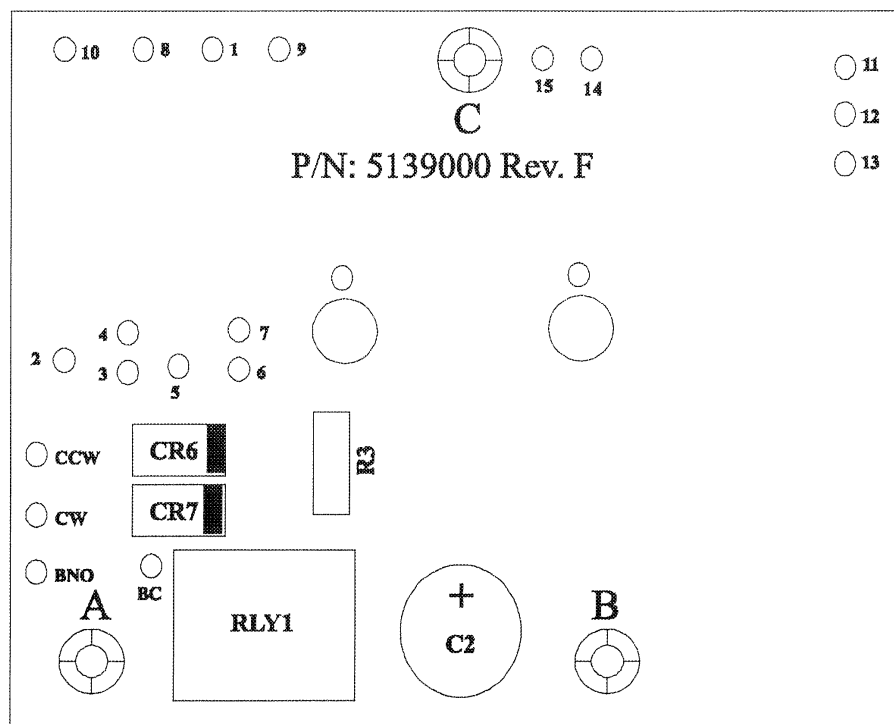

Figure 1
4. Insert one (1) of the 6-32 x 1/2" screws supplied with the kit through the mounting tab hole of the transformer. The screw will be protruding to the underside of the chassis.
5. Install one (1) of the #6 lock washers and one (1) of the 6-32 x 3/8" spacers onto the screw. Install the lock washer under the spacer. This will ensure that the spacer will not turn when the screw is tightened. Holding the spacer with the long nose pliers, tighten the screw. **DO NOT OVERTIGHTEN** the screw. Remember, you are tightening a steel screw into an aluminum spacer. The screw does not have to be tightened down real tight. Just snug.
7. Install one (1) of the #6 lock washers, one (1) of the 6-32 x 5/8" spacers and one (1) 6-32 x 5/16" screws in the mounting hole labeled **C** in Figure 1. The lock washer should be installed under the screw on top of the circuit board. Tighten the screw. **DO NOT OVERTIGHTEN** the screw. Remember, you are tightening a steel screw into an aluminum spacer.
8. Set the circuit board into the chassis, aligning mounting holes **A** and **B** with the two spacers already installed in steps 3-5. Refer to Figure 1.
9. Install one (1) 6-32 x 5/16" screw and one (1) #6 lock washer into mounting holes **A** and **B** in Figure 1. The screws must go through the top of the circuit board with the lock washer between the screw and top of the circuit board. Tighten the screws into the already mounted spacers. **DO NOT OVERTIGHTEN**. Remember, you are tightening steel screws into aluminum spacers and you can strip the threads.